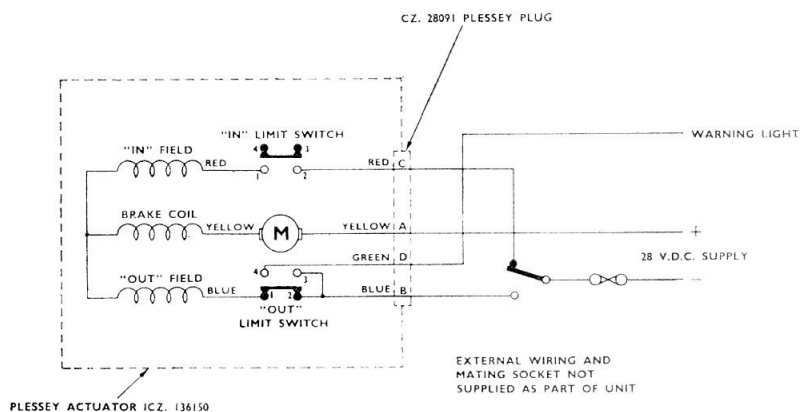

Fig. 3. Circuit diagram
5. A circuit diagram is shown in fig. 3 of the main chapter; it is applicable to all three actuators. Two single-pole, change-over type micro-switches and a four-pole plug are used, although only two terminals, at each switch, and three plug pins are connected into the circuit.
5. Fig. 3 shows the schematic diagram for the wiring of this actuator; it includes the addition to the circuitry typified in the main chapter. Two single pole, change-over type micro-switches and a four-pole plug (Ref. No. 5X/6006), are used. The circuit is designed to provide normal remote control of the actuator and, in addition, to enable an external warning light to be connected into the circuit. The connections are so made that the light should automatically operate when the plunger has reached the pre-set limit of travel in the "extend" position.